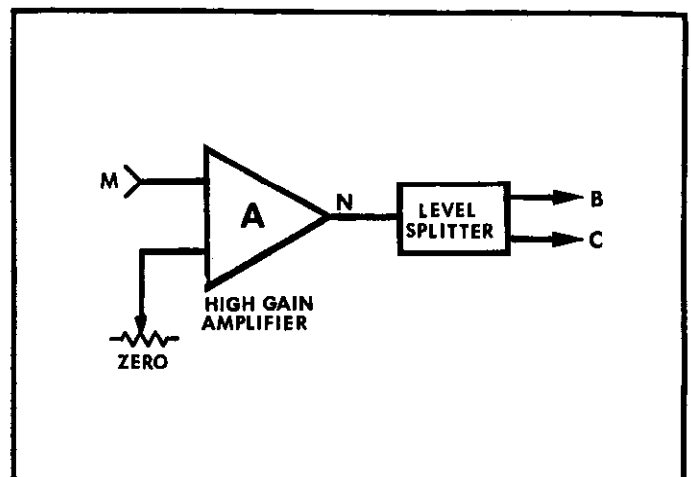

FIGURE 16. Zero Crossing Detector.
a. "RS" Type Flip-Flop Circuit. The flip-flop gates the output of the clock depending on the inputs at pins R and S. The RS flip-flop is constructed of gates QA501B and QA501C. The pins are identified as shown in Figure 16.
c. "HOLD" Gate Circuit. (Refer to Figure 16 for identification of switches S₁ and S₂). The "HOLD" gate circuit is composed of gates QA501A, QA501D, and QA502 (A, B, C, and D). Switch S₁ is gate QA501A and is controlled by either the "HOLD 2" external line or the "MAX" position on the DISPLAY RATE Control. Switch S₂ is transistor Q513 which is controlled by either the "Q" output of the flip-flop or the "HOLD 2" external line. The "HOLD 1" circuit is composed of gates QA502B and QA502C.
f. Polarity Board. The Polarity Board contains various circuits which are controlled by signal "B" and "C" from the Zero Crossing Detector signal as shown in Figure 16.